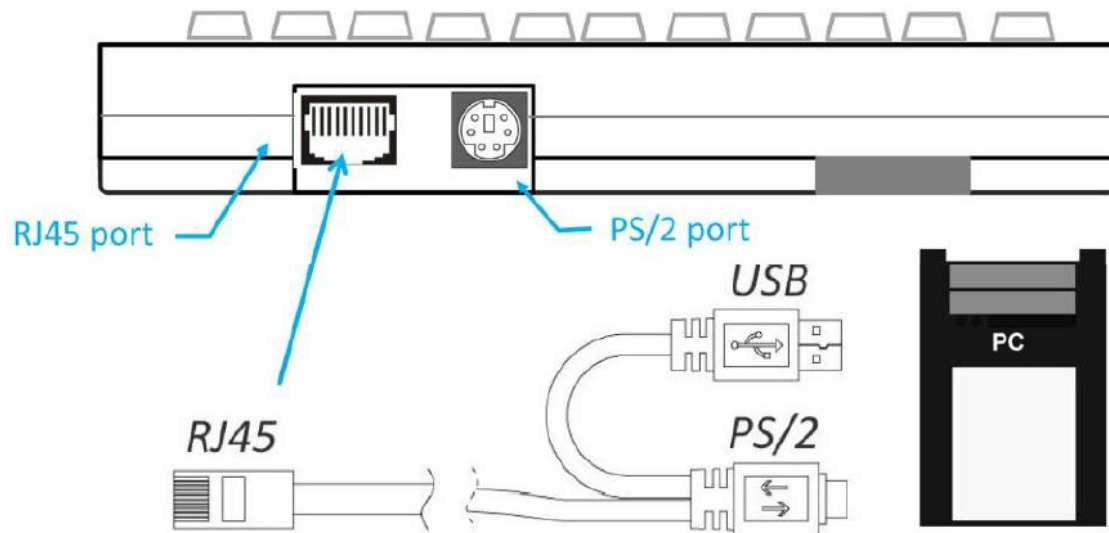

Figure 1.0
1. This programming tool works only under USB interface of PKB-60 POS keyboard. Please make sure if your USB jack is well connected to PC's USB port, please refer (Figure 1.0.)